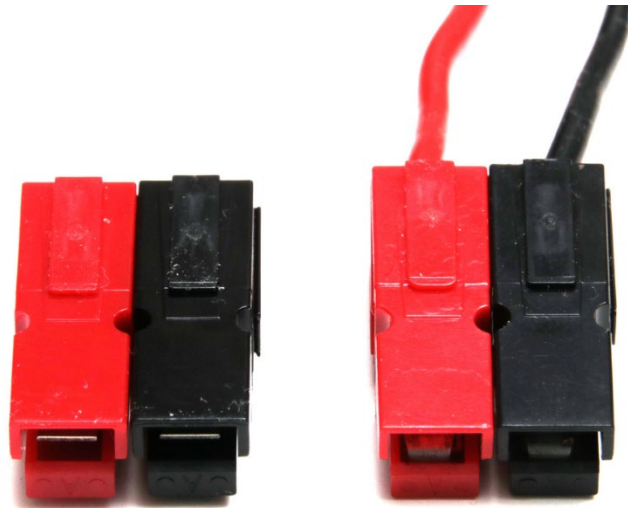

Figure 7. Proper Powerpole polarity to match tunnel wiring.
- There will be a table provided near the tunnel door to hold these electronics enclosures. Figure 7 shows a typical arrangement. Rough distances are shown in the figure, but teams should provide adequate lengths of wire to run from the PCC to accommodate their desired enclosure arrangement on the table. The arrangement at each regional event may be slightly different and will be detailed in the one-page write-up about each tunnel.
- To interface with the PCC, wires should be terminated with Anderson Powerpole, PP15-45, or a compatible connector (a red and a black for positive and negative, respectively). See Figure 7 for correct polarity. Incorrect polarity must be corrected before testing and wire color must match the connector housing color. Colored electrical tape on each end of the wire will be considered sufficient color matching if the wire insulation is not colored (e.g., black).